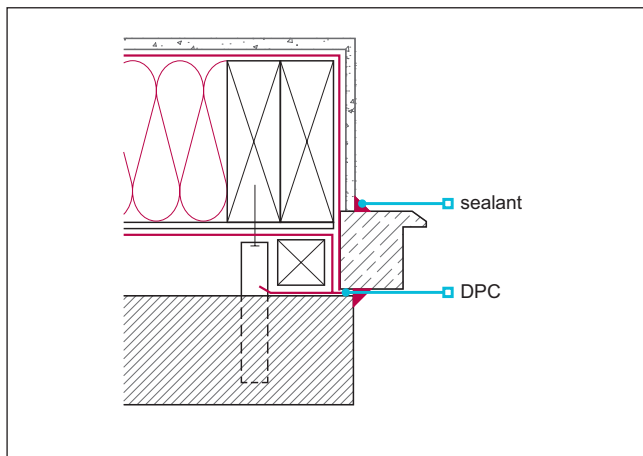

Figure 1 - Timber cavity barrier to window/door jamb
- Timber cavity barriers installed to sill and jambs of window and door openings - timber cavity barriers installed at the jambs and sills of window and door openings should be protected from moisture with a DPC installed over the face in contact with the masonry cladding and lapped into the timber frame window reveal. See Figure 1.